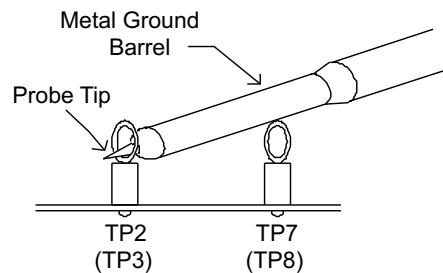

Figure 5-2. Recommended Tip and Barrel Technique to Measure Output Ripple Voltage
3. Use the tip and barrel technique shown in Figure 5-2 to probe VOUT1 and VOUT2 during test procedure.